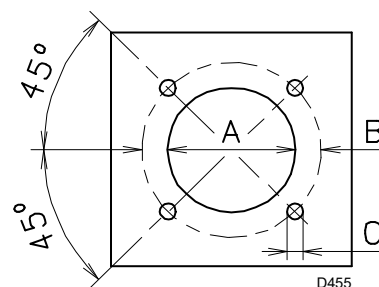

Fig. 15
Drill the combustion chamber locking plate as shown in Fig. 15 (). The position of the threaded holes can be marked using the thermal screen supplied with the burner.
- Fit the entire burner onto the boiler hole prepared previously (Fig. 15), and fasten with the screws supplied.